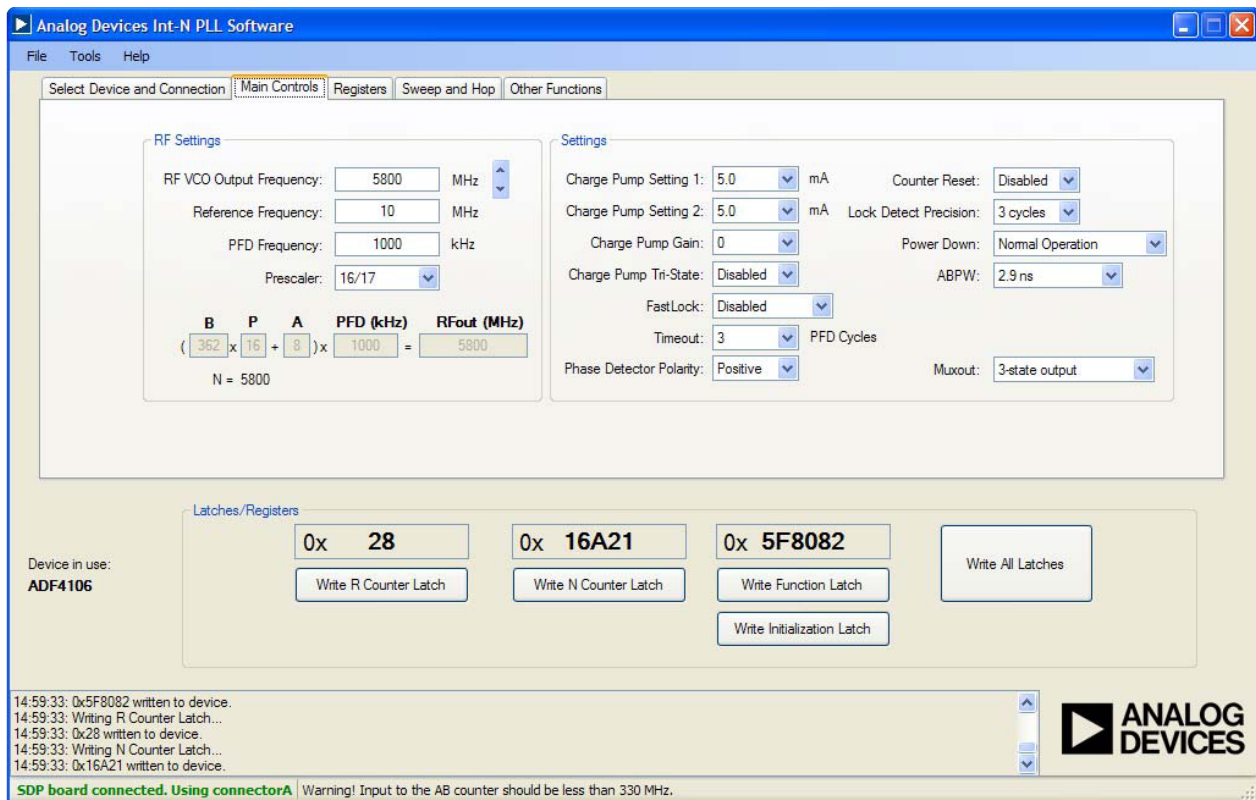

Figure 32. Int-N PLL Software Main Window—Main Controls
The **Main Controls** tab controls the PLL settings (see Figure 32).
8. In the **Main Controls** tab in the main window of the evaluation board software, set the VCO center frequency in the **RF VCO Output Frequency** text box (Figure 32 uses a 5800 MHz VCO). Set the required value in the **PFD Frequency** text box, and program the **Reference Frequency** value to equal the frequency supplied to Connector J11 (or the TCXO). See Figure 36 for the suggested setup.